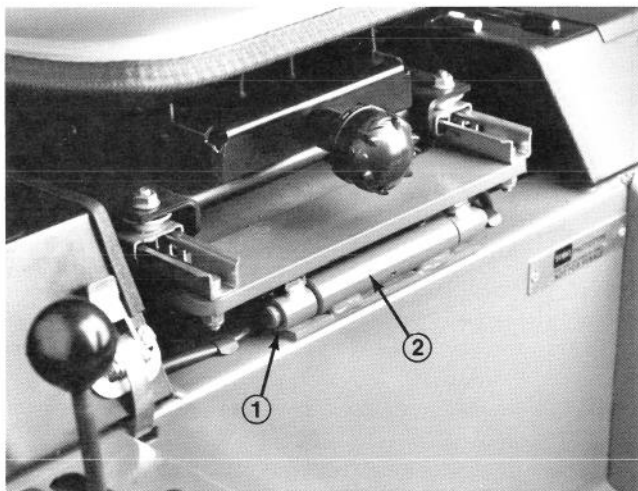

Figure 13
11. Mount seat and seat support to unit with pivot shaft and roll pin (Fig. 13).